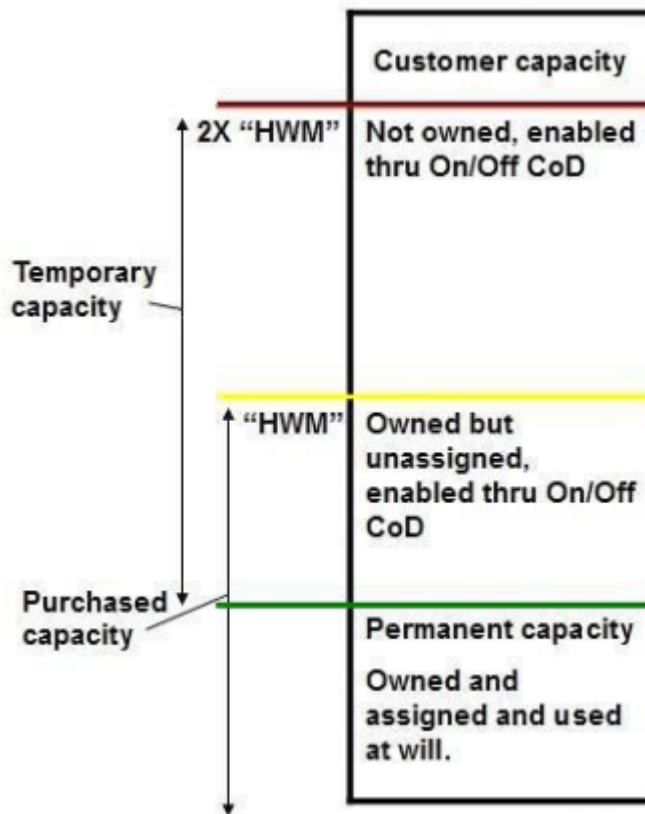

Figure 16. Maximum CP capacity
- The maximum upgrade for CP capacity is 100% of the **current purchased capacity**. Current purchased capacity (also referred to as the "high water mark" or HWM) includes owned and active permanent capacity and owned and unassigned permanent capacity. (See Figure 16 on page 35.) Capacity is computed based on processing capacity gained by adding the engines. It is based off the published LSPR values for the configuration.